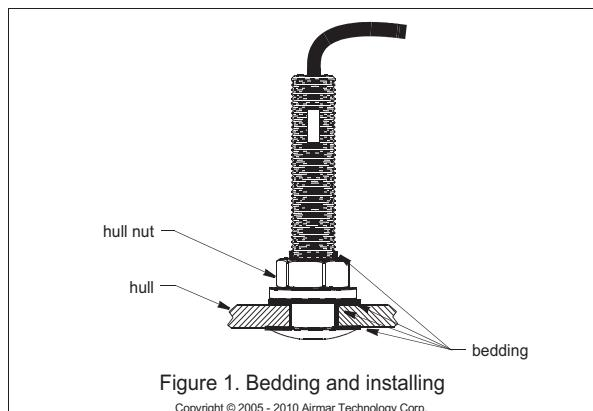

Figure 1. Bedding and installing
1. Remove the hull nut (see Figure 1).
2. Push the sensor into the mounting hole using a twisting motion to squeeze out excess marine sealant (see Figure 1).